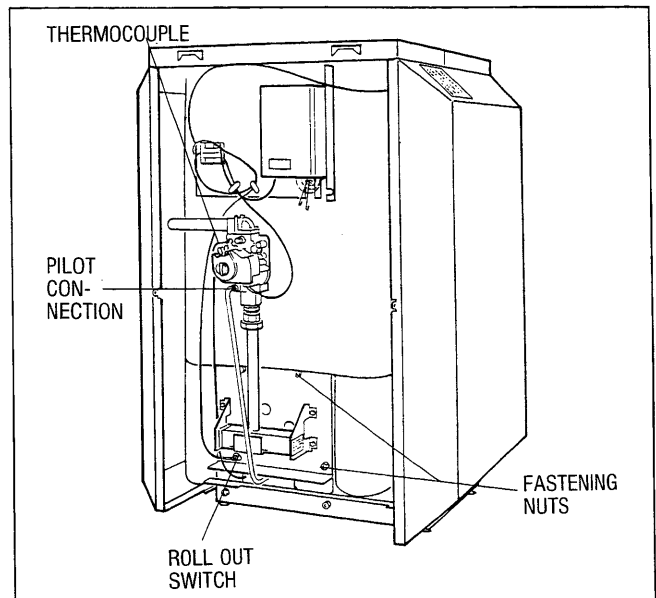

Fig. 19
6. Secure the gas line piping to the slot in the top jacket panel with wire or rope, fig. 19.
8. Label the flame roll-out switch wires and disconnect the wires from the flame roll-out switch, fig. 19.
9. Remove the nuts and washers that secure the burner assembly to the boiler and remove the burner assembly from the boiler, fig. 19.